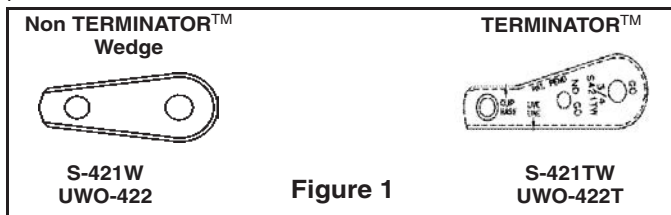

Figure 1
NOTE: The design of the basket for the S-421T 1-1/4" TERMINATOR™ Wedge Socket does not allow proper fit to the old style Crosby S-421W wedge (see Fig. 1). **Do not assemble or use.**
The design of the basket for each US-422T TERMINATOR™ Wedge Socket does not allow proper fit to the old style UWO-422 wedge (See Fig. 1). **Do not assemble or use.**
- Align live end of rope, with center line of pin. (See Figure 1)
- Secure dead end section of rope. (See Figure 1)
- **To use with Rotation Resistant wire rope** (special wire rope constructions with 8 or more outer strands) ensure that the dead end is welded, brazed or sized before inserting the wire rope into wedge socket to prevent core slippage or loss of rope lay. The tail length of the dead end should be a minimum of 20 rope diameters but not less than 6". (Figure 1)